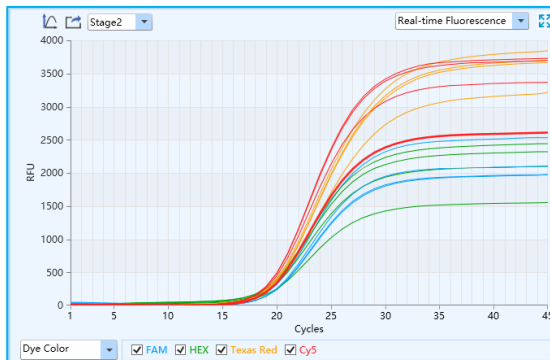

Figure E-8.1 Run Monitoring Interface - Real-time Fluorescence Function Module
1. **Real-time Fluorescence:** displays the diagram of real-time fluorescence intensity (Y-axis RFU) against cycle number (X-axis) of the current running experiment, as shown in figure E-8.1. The software displays all the fluorescence curves by default.